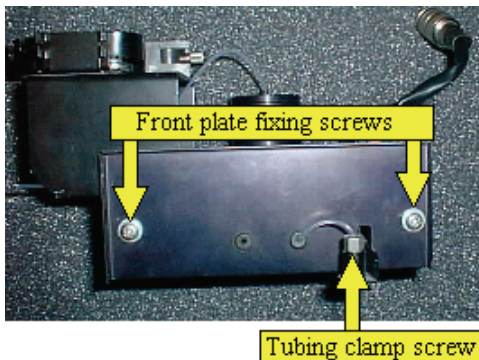

Figure 38 The front of the Sipper
1. If the tubing is clamped in the switch lever, loosen the tubing clamp screw, as shown in Figure 38, and pull out the tubing.
2. Loosen the two front plate fixing screws, as shown in Figure 38, and remove the front plate.
13. Re-fit the front plate, as shown in Figure 38.
14. Re-insert and re-clamp the tubing using the tubing clamp screw, as shown in Figure 38.